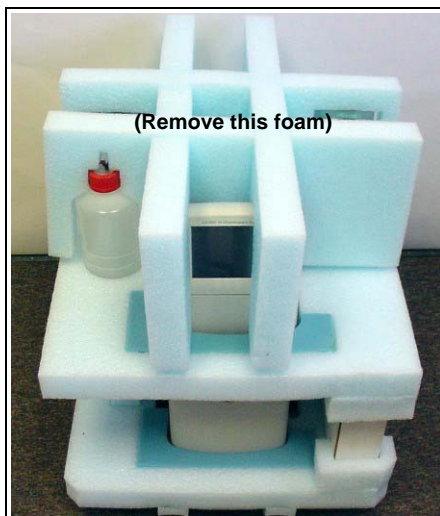

Figure 1. ICS-1500 After Removing Shipping Box and First Layer of Foam
1. After removing the ICS-1500 from the shipping box and removing the top layer of foam, remove the next layer of foam (see Figure 1).